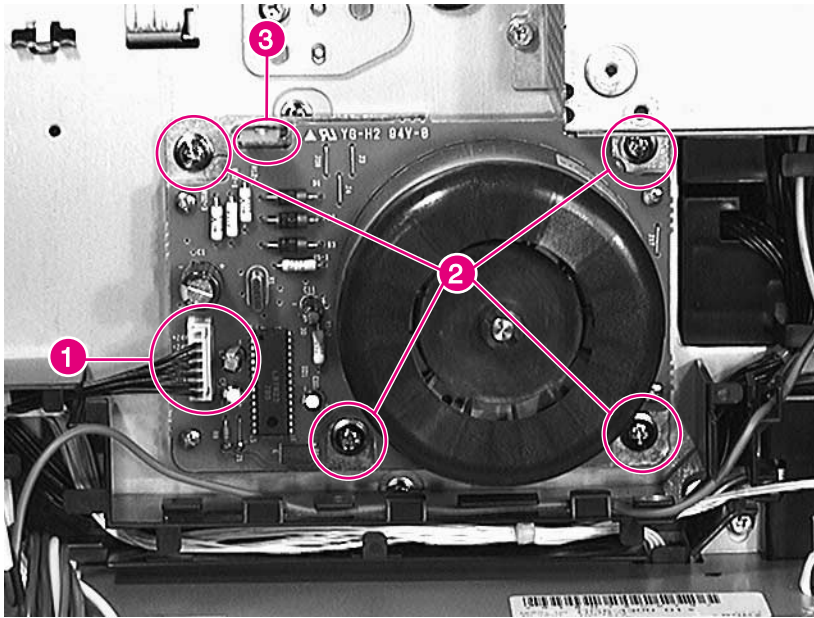

Figure 6-41 Main Motor
- Main Motor (see figure 6-41 on page 309)
- 3 Unplug the connector (figure 6-41, callout 1).
- 4 Remove 4 screws (figure 6-41, callout 2).
Align the Main Motor to the chassis with the locator tab (figure 6-41, callout 3) and the machined ring around the output shaft.